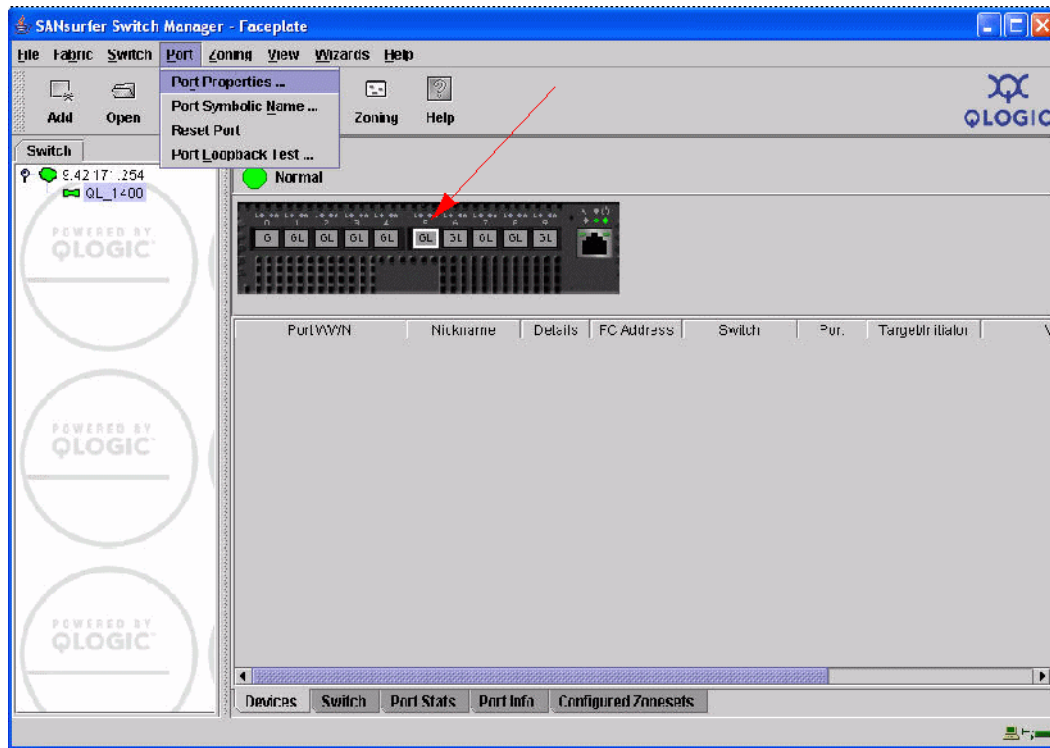

Figure 7-40 Port Properties window
11. On the Faceplate, select the port you will connect your storage. Select **Port** → **Port Properties** (Figure 7-40). In our example, we selected port 5.